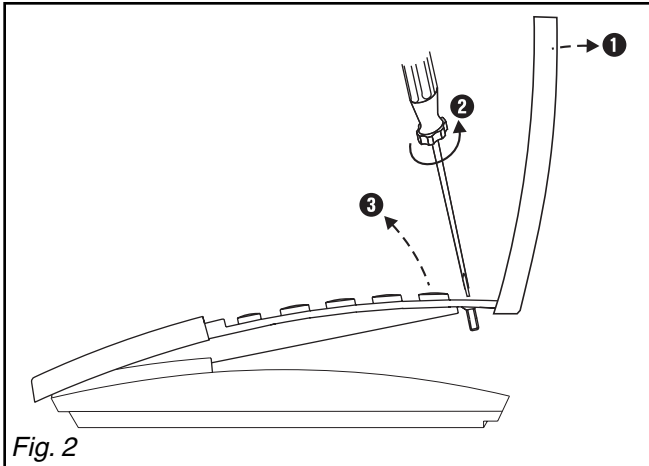
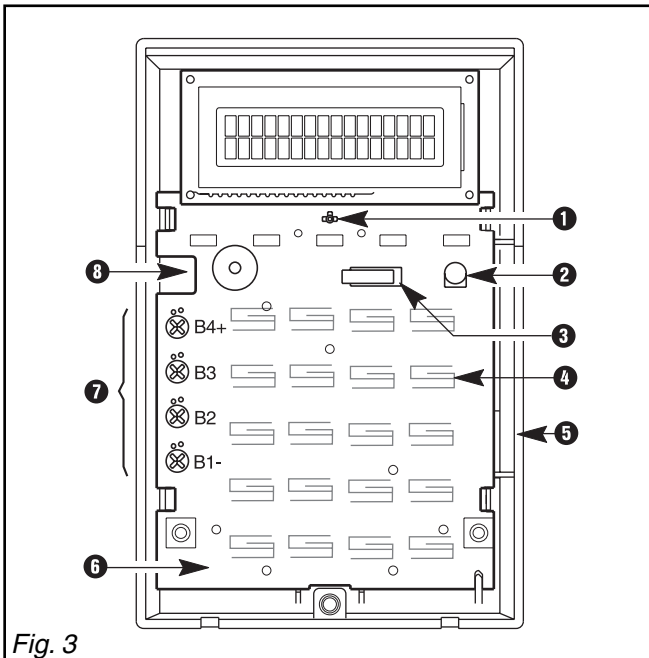

Fig. 2
Fig. 3
3.2 Open housing (Fig. 2)
- 1 - Open the lid ① of the cover.
- 2 - Open the housing using a screwdriver ②.
- 3 - Remove the cover ③.
3.3 Product overview (Fig. 3)
- ① Central rod is used to focus the circuit board.
- ② Potentiometer for the LCD.
- ③ Tamper contact.
- ④ Contact of the keyboard.
- ⑤ Mounting base.
- ⑥ Circuit board SMK 41.
- ⑦ Terminals for the E- bus.
- ⑧ Cable inlet.
don't touch the contact of the keyboard (④ Fig.3).